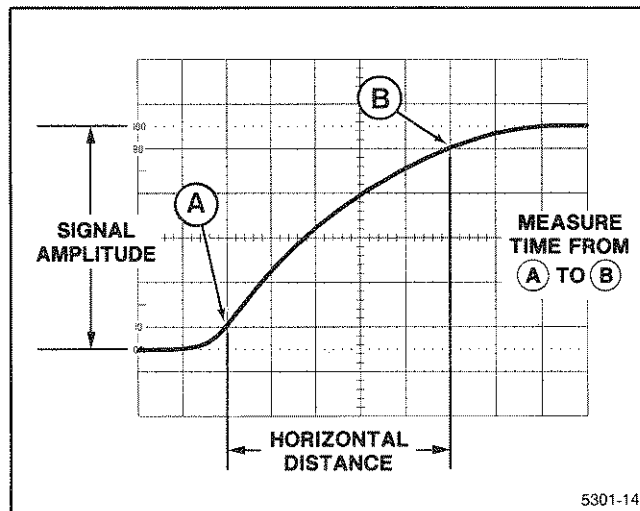

Figure 6-6. Rise time.
Rise-time measurements use the same methods as time duration, except that the measurements are made between the 10% and 90% points on the leading edge of the waveform (see Figure 6-6). Fall time is measured between the 90% and 10% points on the trailing edge of the waveform.
4. Adjust the vertical positioning so that the zero reference of the waveform touches the 0% graticule line and the top of the waveform touches the 100% graticule line (see Figure 6-6).
6. Horizontally position the display so the 10% point on the waveform intersects the second vertical graticule line (see Figure 6-6, Point A).
**EXAMPLE:** The horizontal distance between the 10% and 90% points is 5 divisions (see Figure 6-6), and the SEC/DIV switch is set to 1  $\mu\text{s}$ . The X10 magnifier knob is pushed in (X1 magnification).